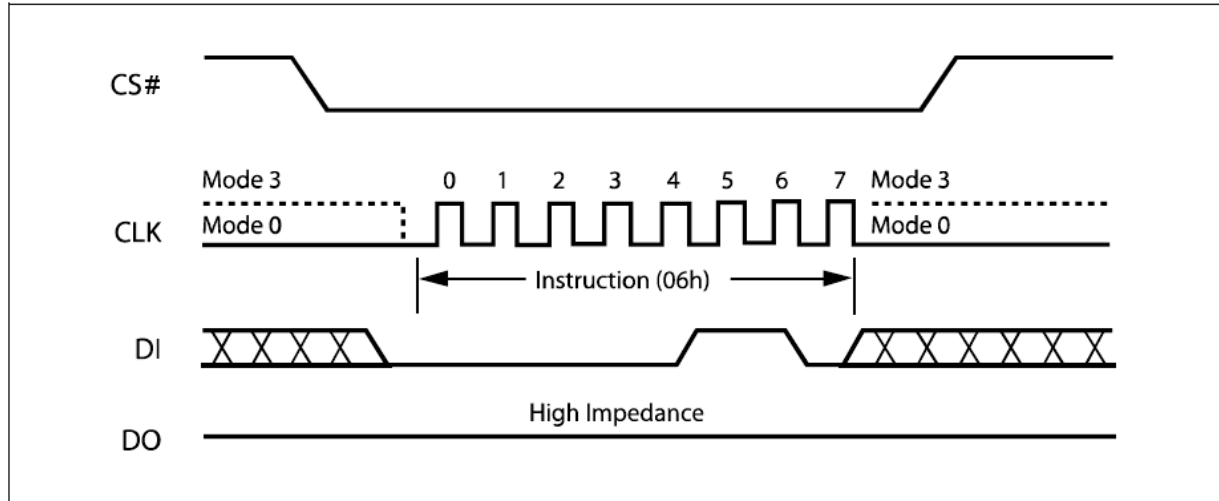

Figure 8. Write Enable Instruction Sequence Diagram
The Write Enable (WREN) instruction (Figure 8) sets the Write Enable Latch (WEL) bit. The Write Enable Latch (WEL) bit must be set prior to every Page Program (PP), Quad Input Page Program (QPP), Sector Erase (SE), Block Erase (HBE/BE), Chip Erase (CE) and Write Status Register (WRSR/ WRSR3) instruction. The Write Enable (WREN) instruction is entered by driving Chip Select (CS#) Low, sending the instruction code, and then driving Chip Select (CS#) High.